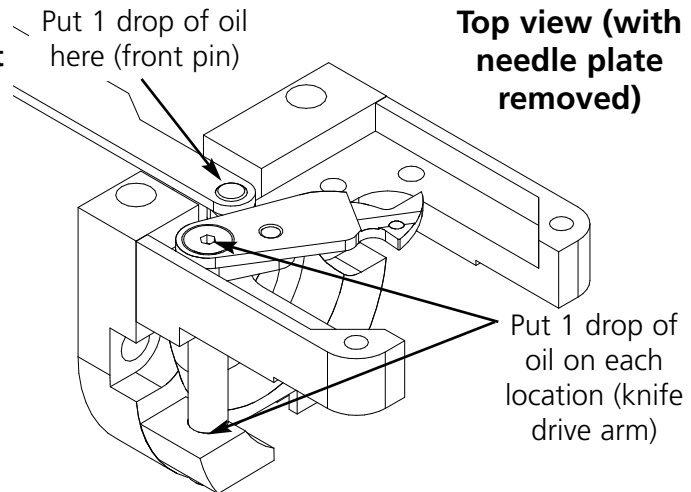

Figure 4-16
6. When **trimmer knife drive arm, front pin** displays, press . No motion is required to lubricate the trimmer knife drive arm and pin. Remove the needle plate. Refer to Figure 4-16 to lubricate the trimmer knife drive arm and pin. Press  when done. Replace the needle plate.